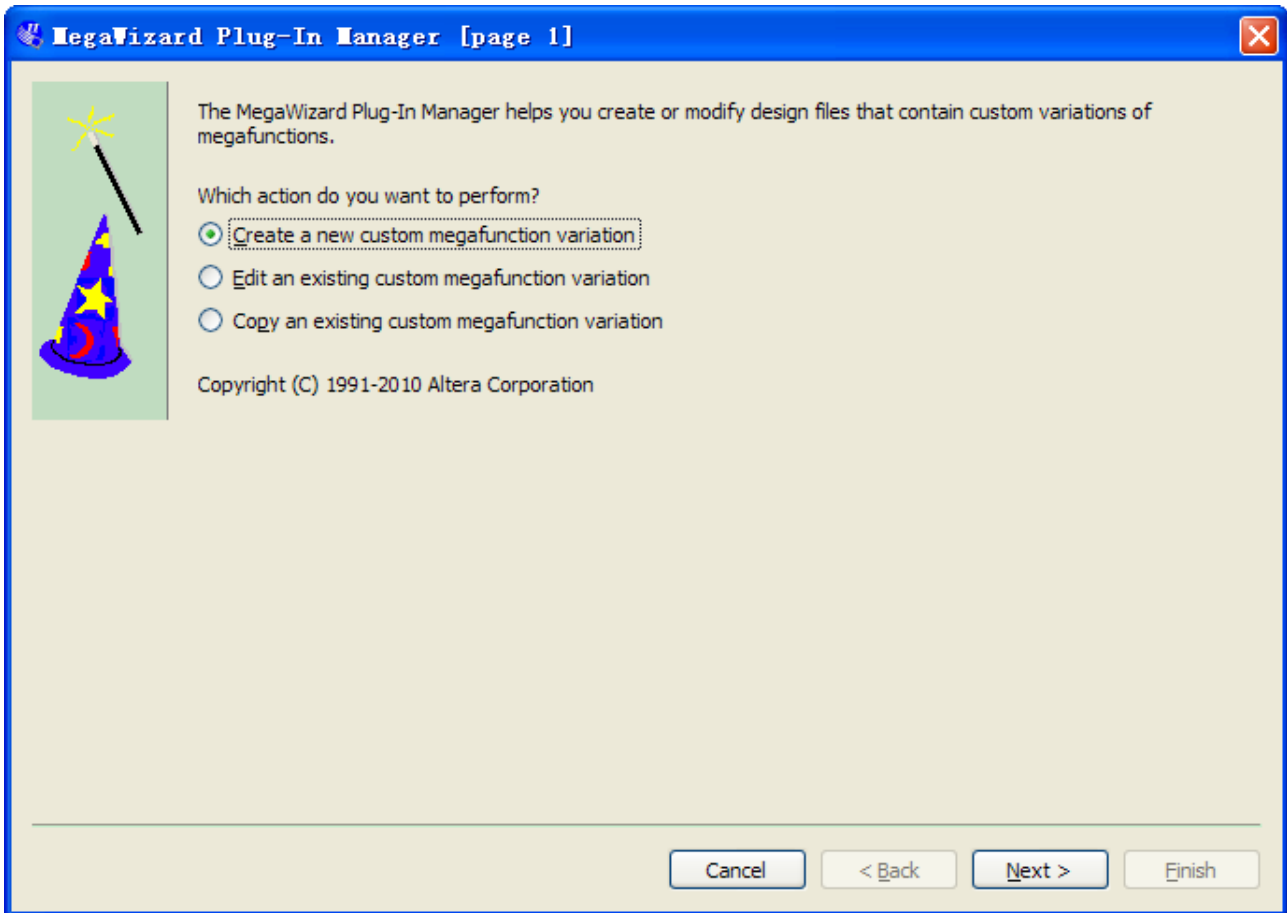

Figure 6-19 Mega Wizard Plug-In Manager
2. Click Megawizard Plug-in Manager. The MegaWizard® Plug-In Manager appears (see Figure 6-19).